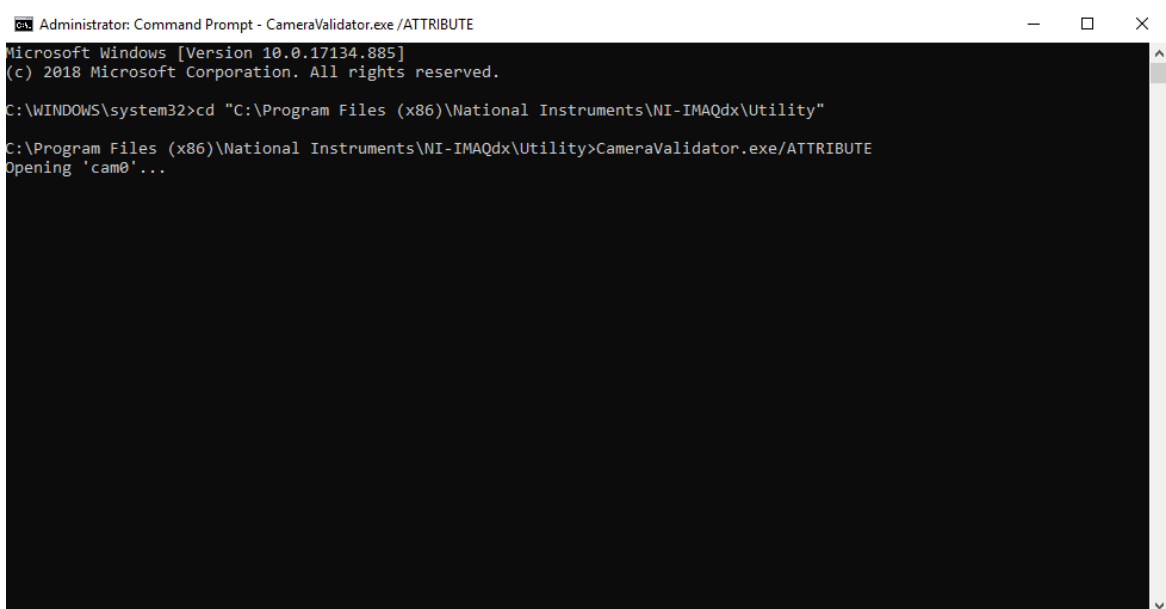

Figure 5: An example command prompt where the necessary scripts have been entered to recreate the XML file.
2. Open Command Prompt as administrator and enter the following commands (see Fig. 5):